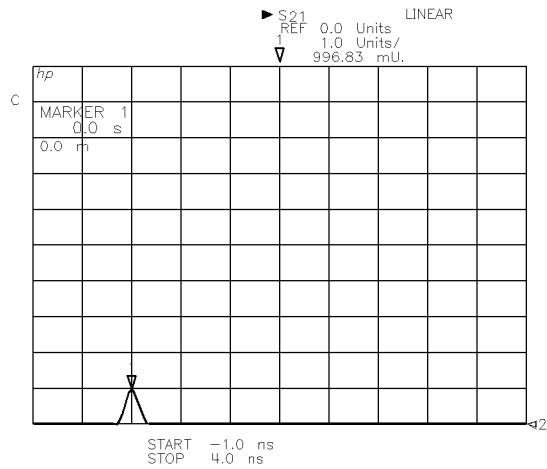

Figure 2-12. Time Domain Reflection Response of a Thru: S₂₁
2. Position the marker on the peak of the response. The measured time value should be near 0 seconds, indicating that the transmission return cable is connected to the point at which the transmission measurement calibration was performed. See Figure 2-12 for an example display.